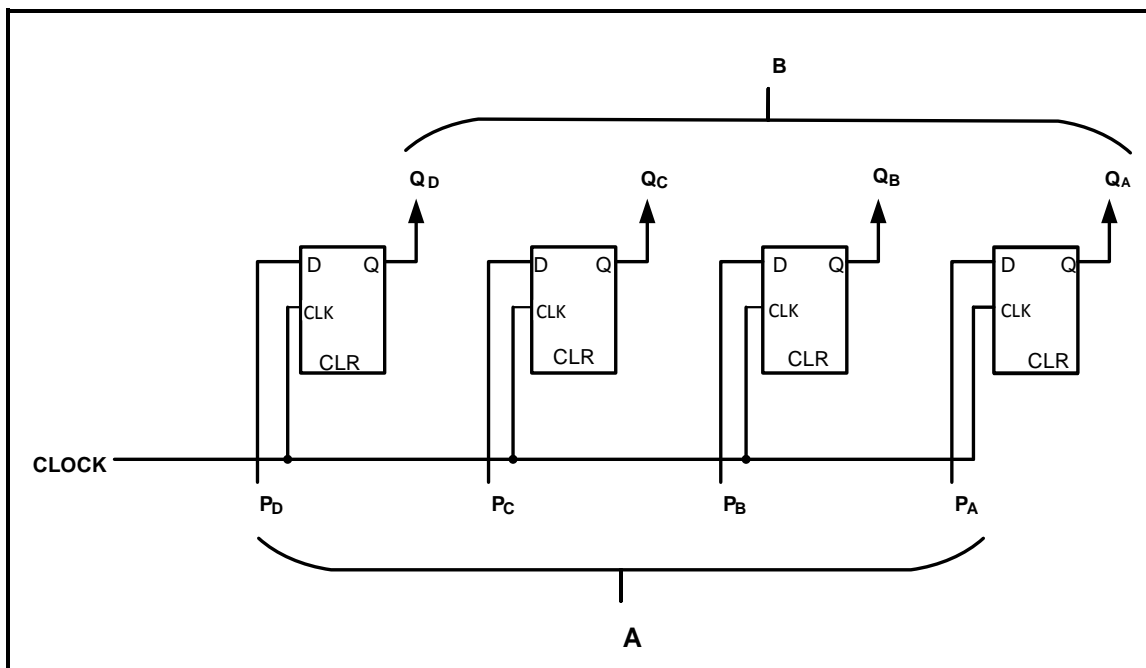

FIGURE 4.12
4.12 Refer to FIGURE 4.12 below and answer the questions that follow.
4.12.1 Identify the register in FIGURE 4.12. (1)